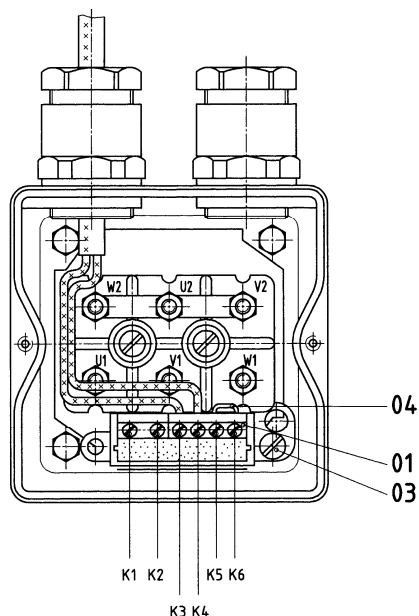

figure 6
The rectifier module can be mounted in the terminal box of the motor eg. as shown in figure 6
After having connected to the contacts (K1, K2) the feeding for A.C. voltage as per fig. 6 and fig. 7a and after having checked the conduct to the brake (K3, K4), immediately a simple switching on A.C. side is possible due to a contact link at the contacts (K5, K6) (provided on delivery).
Remove the contact link (04) (fig. 6) connecting the contacts K5 and K6. Then link these contacts (K5, K6) through an additional control cable by means of auxiliary contacts of the motor contactor.